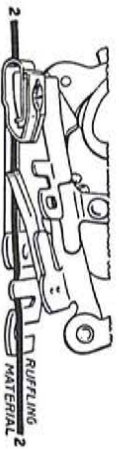

Fig. 74. Correct Position for Material
3. Insert the material to be pleated between the two blue blades and under the separator guide (Line 2, Fig. 74).